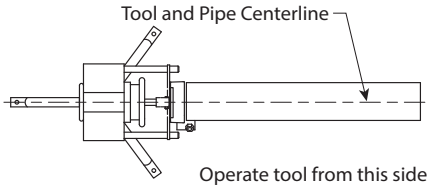

FIGURE 2 - TRACKING ANGLE
c. Position the centerline of the pipe stand along the centerline of the tool. Refer to Figure 2 above.